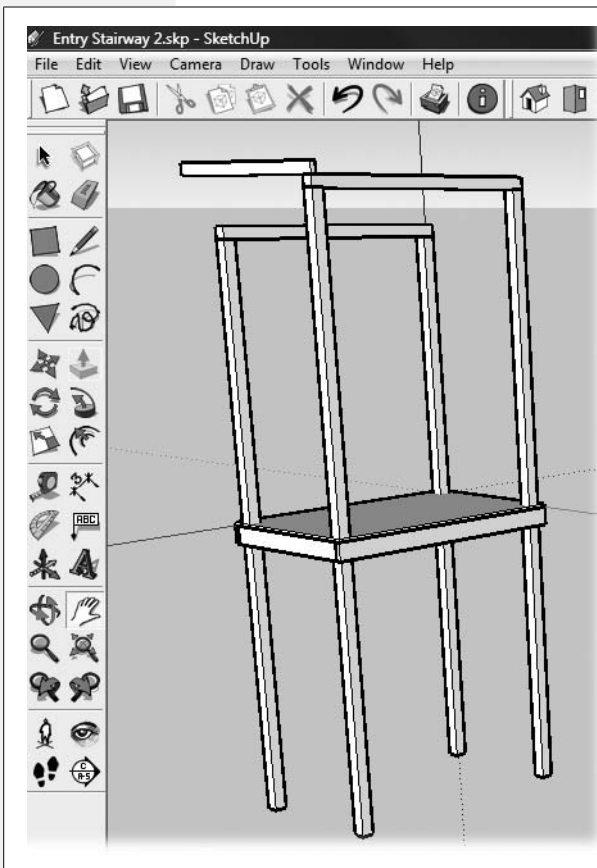

Figure 7-16:
3. With Push/Pull (P), push the rafter so it extends way beyond the lower beam (as shown in Figure 7-16).